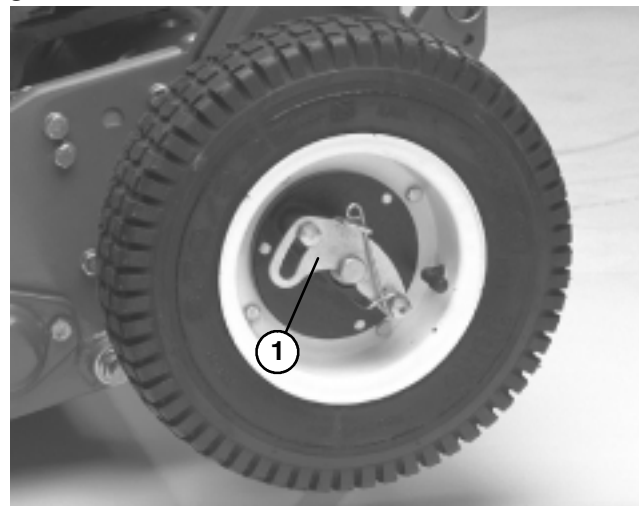

Figure 4
4. Apply Never-Seez to the exposed ends of axles and slide wheel onto axle (Fig. 4).
5. Pivot wheel locking clip away from center of wheel allowing wheel to slide farther onto axle (Fig. 4).